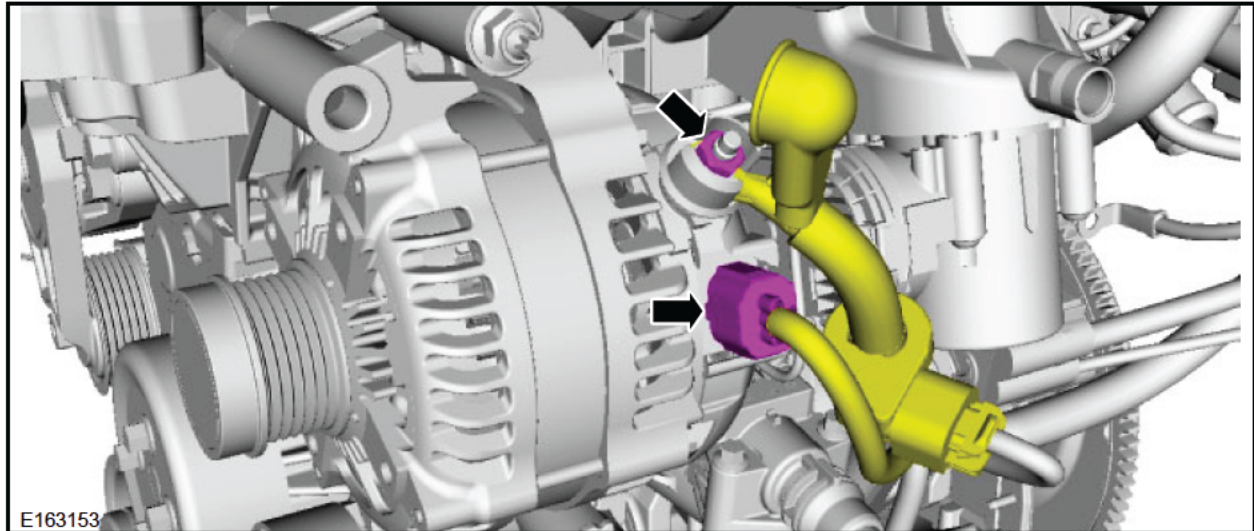

FIGURE D5
7. Remove the nut and disconnect the generator battery cable and electrical connector. See Figure D5.